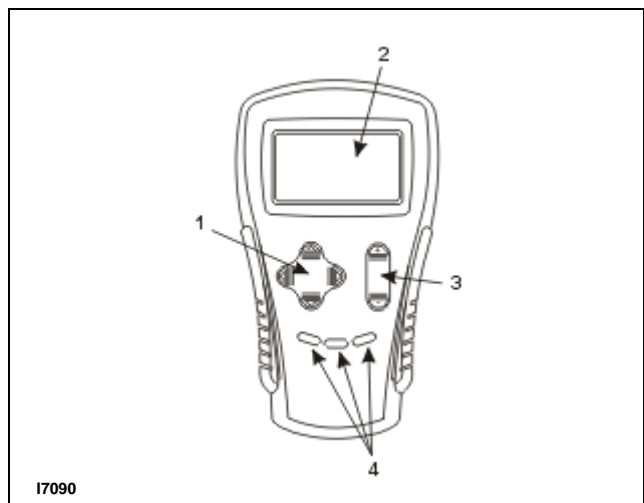

Figure 4-2 Hand Held Programmer
2. Turn the lift truck key switch to the ON position. The programmer should "power up" with an initial display (2, Figure 4-2), and the controller's Status LED should begin steadily blinking a single flash. If neither happens, check for continuity in the key switch circuit and controller ground.
3. Put the controller into the diagnostic mode by pressing the "Menu Navigation Key" (1, Figure 4-2). Using the Navigation key, select the Faults menu. Display the Faults menu by pressing the Right side of the Navigation key. Press the Right side of the Navigation key again to display the list of System Faults. The display should indicate "No Known Faults."
To see the present status of the unit, use the Menu Navigation Key (1, Figure 4-2) to select: